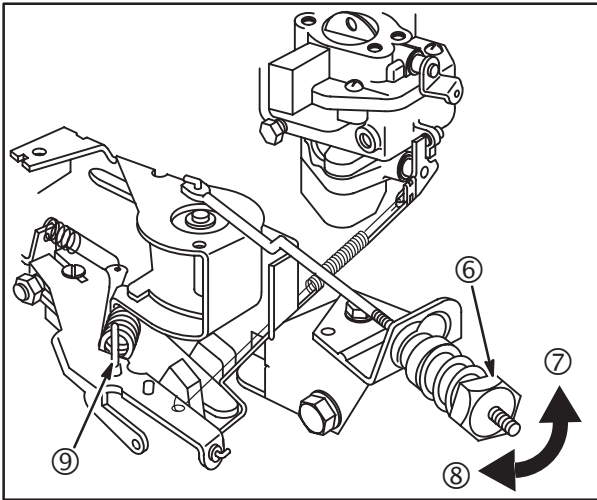

Fig. 37
NOTE: Be sure the governor spring is installed in #1 hole in governor lever (9), **Fig. 37**.
- Turn fixed speed adjustable control nut (6) clockwise (8) to increase or counter-clockwise (7) to decrease engine speed until desired Top No-Load RPM is obtained, **Fig. 37**.